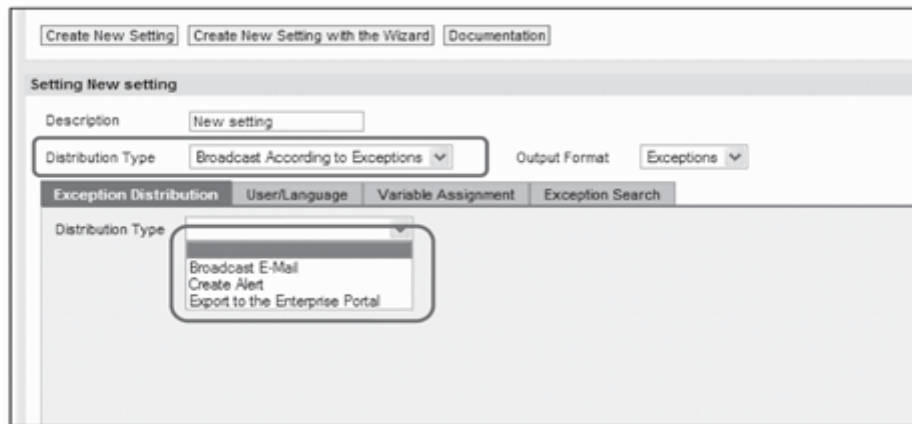

Figure 10.70 Broadcast According to Exceptions
- ▶ **Broadcast According to Exceptions:** This distribution type broadcasts the data based on the exceptions defined on the selected BEx object and is especially useful if you want to send alerts to a set of recipients based on the threshold value defined in the exception (Figure 10.70).